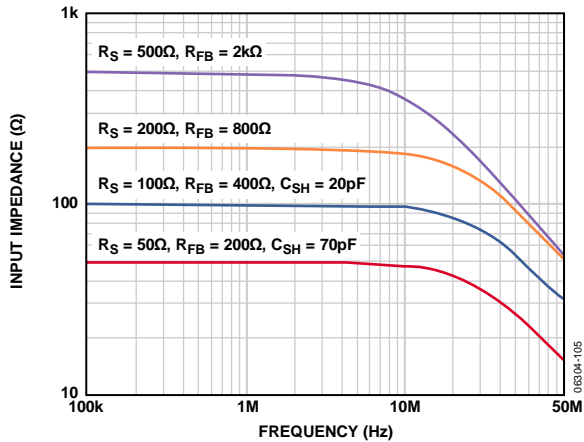

Figure 42.  $R_{IN}$  vs. Frequency for Various Values of  $R_{FB}$  (Effects of  $R_{SH}$  and  $C_{SH}$  Are Also Shown)
The bandwidth (BW) of the LNA is about 70 MHz. Ultimately the BW of the LNA limits the accuracy of the synthesized  $R_{IN}$ . For  $R_{IN} = R_s$  up to about 200  $\Omega$ , the best match is between 100 kHz and 10 MHz, where the lower frequency limit is determined by the size of the ac-coupling capacitors, and the upper limit is determined by the LNA BW. Furthermore, the input capacitance and  $R_s$  limit the BW at higher frequencies. Figure 42 shows  $R_{IN}$  vs. frequency for various values of  $R_{FB}$ .
Note that at the lowest value, 50  $\Omega$ , in Figure 42,  $R_{IN}$  peaks at frequencies greater than 10 MHz. This is due to the BW roll-off of the LNA, as mentioned previously.